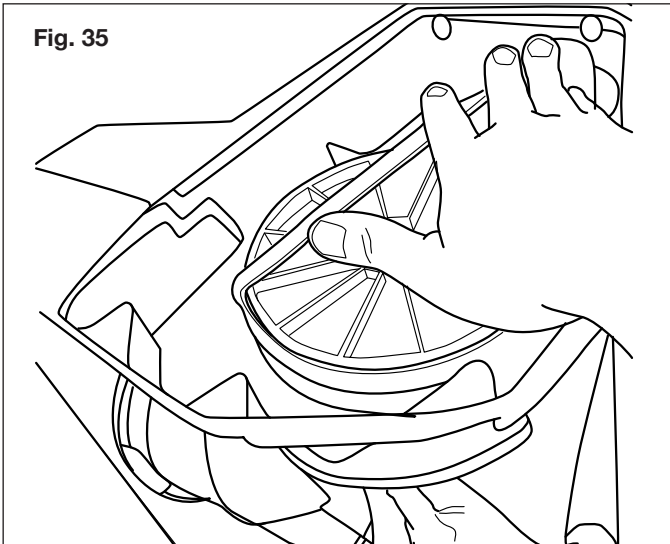

Fig. 35
- Use your right hand to press the belt with the ribbed side down. While holding the belt down with your right hand, use your left hand to turn the auger forward so that the auger pulley rotates in a clockwise direction. The belt will be gradually pushed down onto the pulley. When the belt is seated on the pulley, adjust it so that the ribs of the belt match the grooves on the pulley. (Fig. 35).